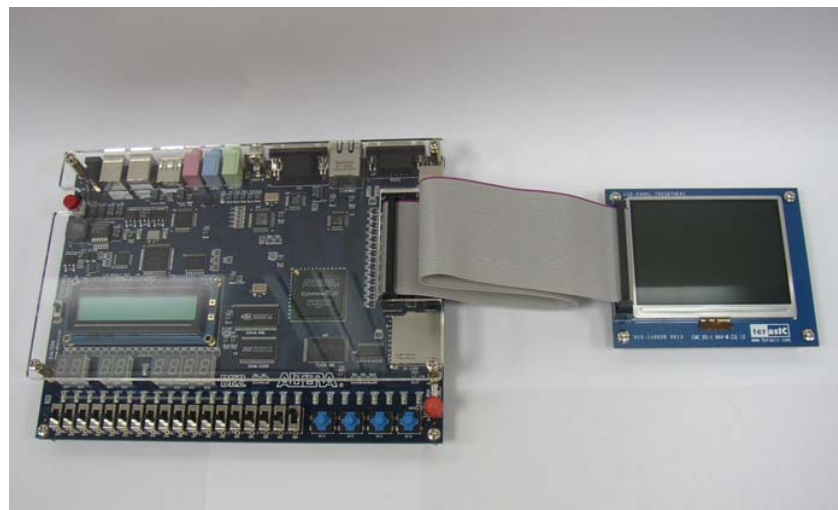

Figure 1.3 Connect the other end of IDE cable to the DE2/DE1 board's expansion port (innermost port)
2. Connect the other end of the IDE cable to your DE2/DE1 board as shown in Figure 1.3.